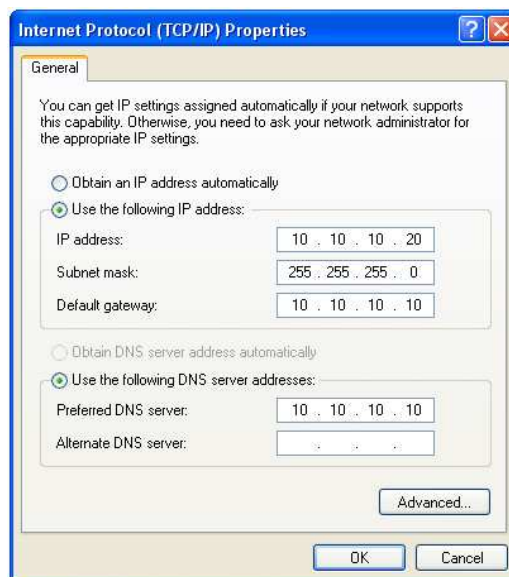

Figure 12: Internet Protocol (TCP/IP) Properties dialog box showing the recommended IP settings.
6. The Internet Protocol (TCP/IP) Properties dialog box, change the settings to match those shown in Figure 12, and then click “OK”